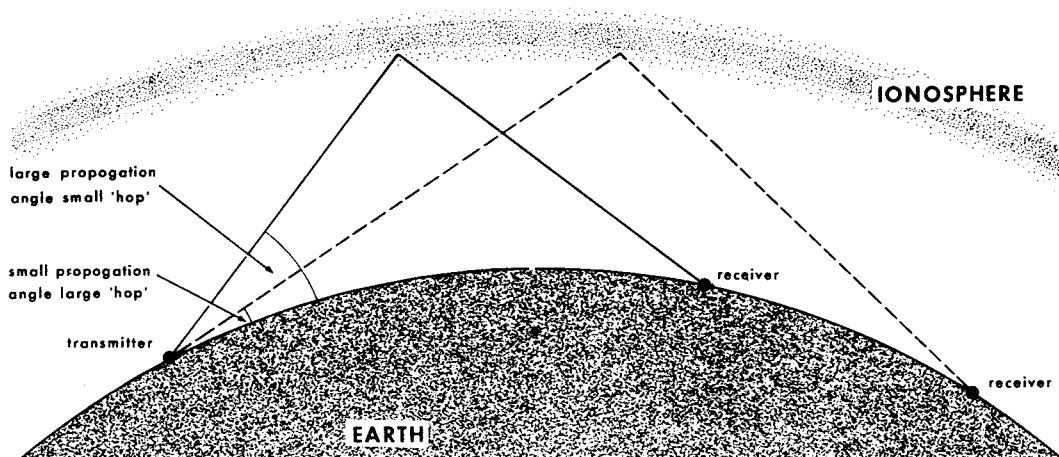

Fig 15.8 Ionospheric reflections
- **Ionospheric reflections.** The earth is spherical in shape and has conducting layers of gas in the upper atmosphere. These layers of gas (the ionosphere) reflect radio waves. If we know the distance between the transmitter and receiver, we can work out the angle at which we have to direct the radiation in order to reflect the radiation off the ionosphere into the receiver antenna (Fig 15.8).